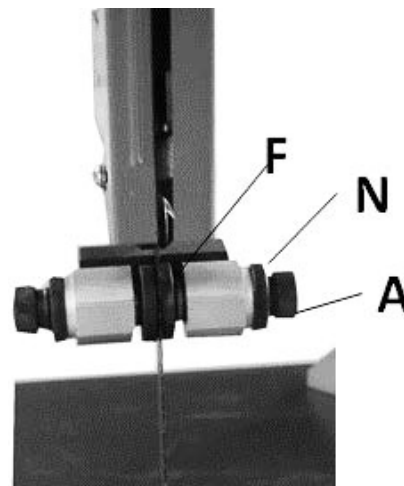

Fig. 14: Upper saw band guide
Step 1: To adjust, loosen the clamping nuts (Pos. N, Fig. 14) and bring the guide discs (Pos. F, Fig. 14) up to 0.5 mm onto the saw blade by turning the screws (Pos. A, Fig. 14). Then tighten the clamping nuts again.